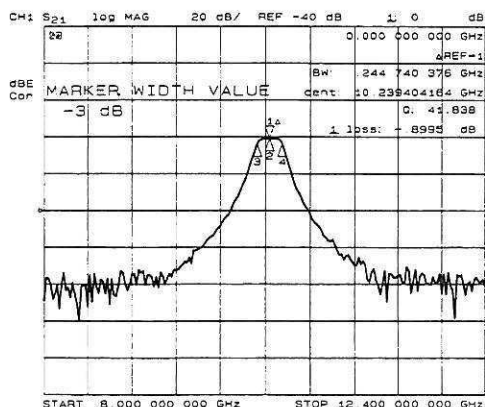

Figure 15. 3 dB Bandwidth Measurement
13. Activating the widths function causes the analyzer to immediately find the upper and lower -3 dB frequency points relative to marker 1 as shown in Figure 15. (-3 dB is the default value for the widths function.) The analyzer also provides the filter's Q (quality factor). Press: